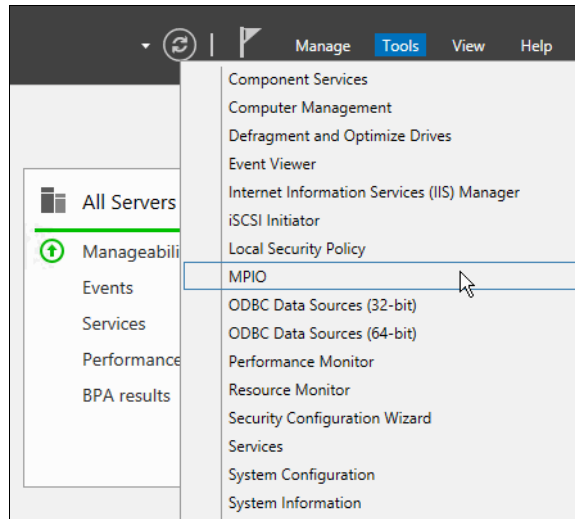

Figure 5-48 Opening the MPIO properties window
7. To enable MPIO for iSCSI devices, first go to **Tools** → **MPIO** in Server Manager, as shown in Figure 5-48.